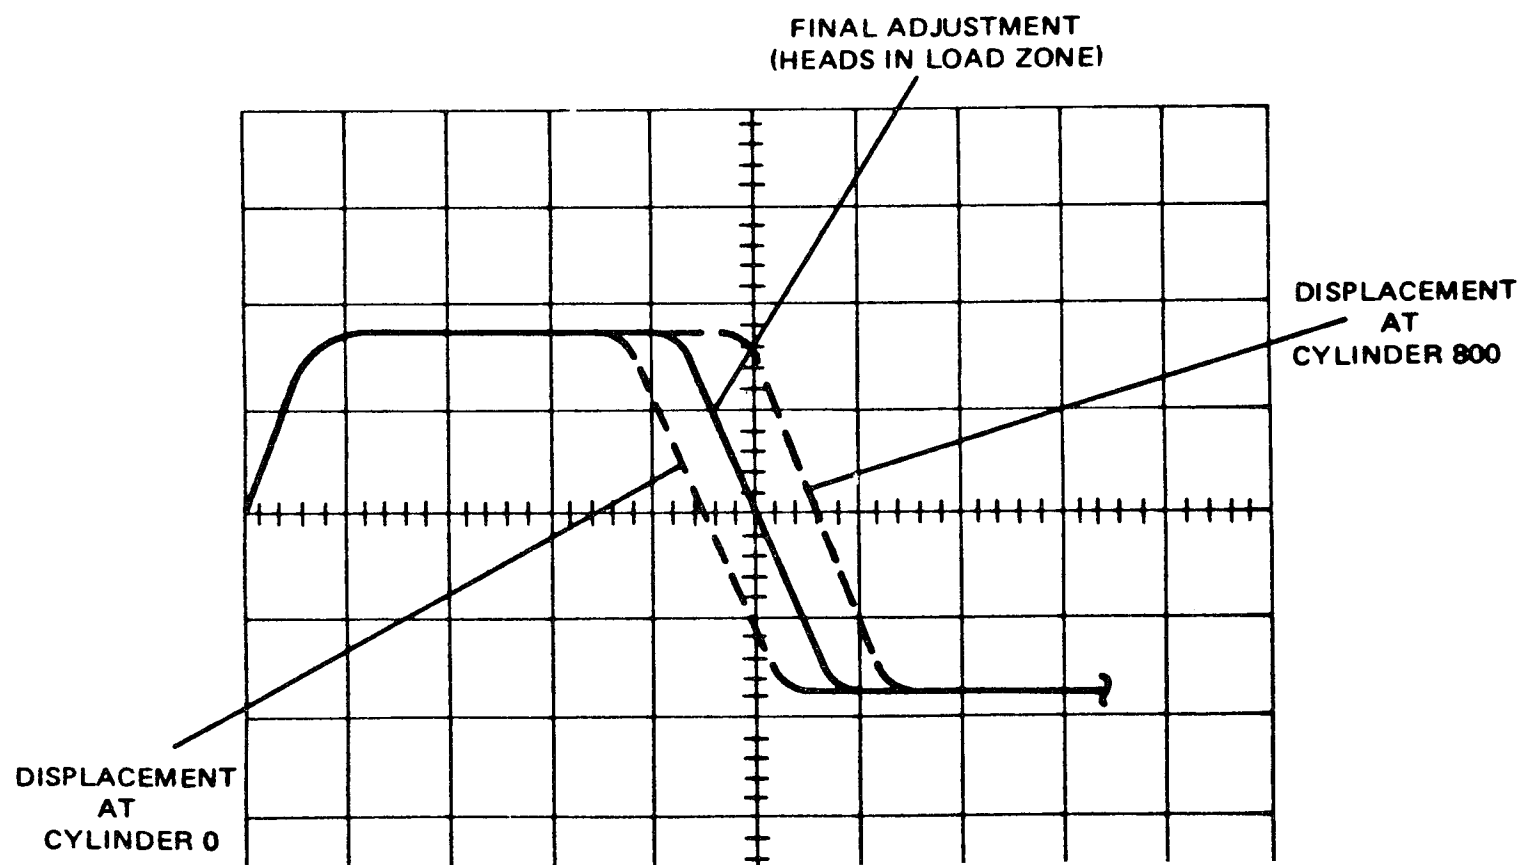

Figure 3-6. Clock Frequency Adjustment
10. Adjust the horizontal position control until the trailing edge of the last pulse is aligned with the center vertical line of the graticule at the mid amplitude point (Figure 3-6).
14. Referring to Figure 3-6, verify that the clock pulse shifts left (earlier) when the heads are positioned in the vicinity of cylinder 0, then to the right of the free-running position (later) when positioned in the vicinity of cylinder 800. This completes the clock frequency adjustment.